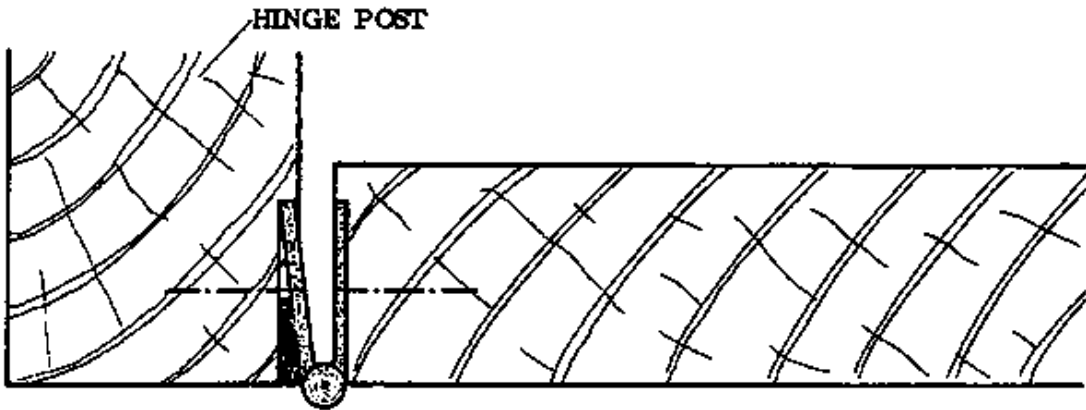

Fig. 1
- When a door binds (catches or rubs) on the hinge post, insert thin pieces of wood at the face edge of the hinges (near the pin) until the problem is relieved (Fig. 1). A strip about 1 cm wide and as long as the hinge will do.